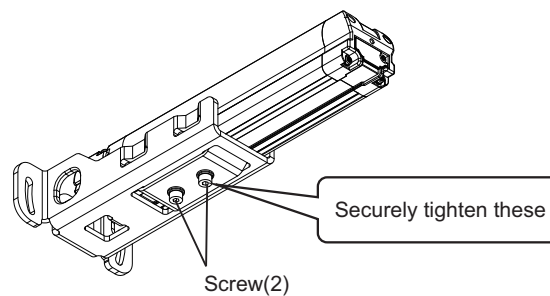

Fig. 4
Then securely tighten the Screw(2) to fix the Bracket(2) to the housing of the F3W-MA. The recommended torque to tighten the Screw(1) is 3.0 N•m. (Fig. 4)